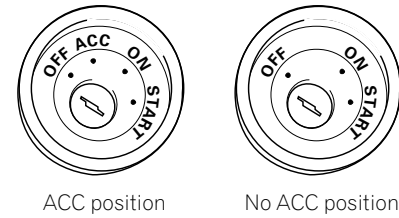

Fig. 1
- **This unit can not be installed in a vehicle that does not have an ACC (accessory) position on the ignition switch. (Fig. 1)**